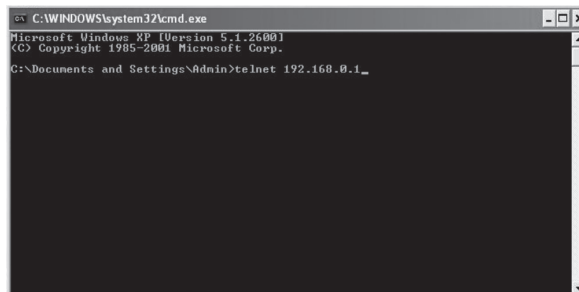

Figure 5-11 Connecting to the Switch
5. Type telnet 192.168.0.1 in the command prompt shown as Figure 5-11, and press the Enter button.